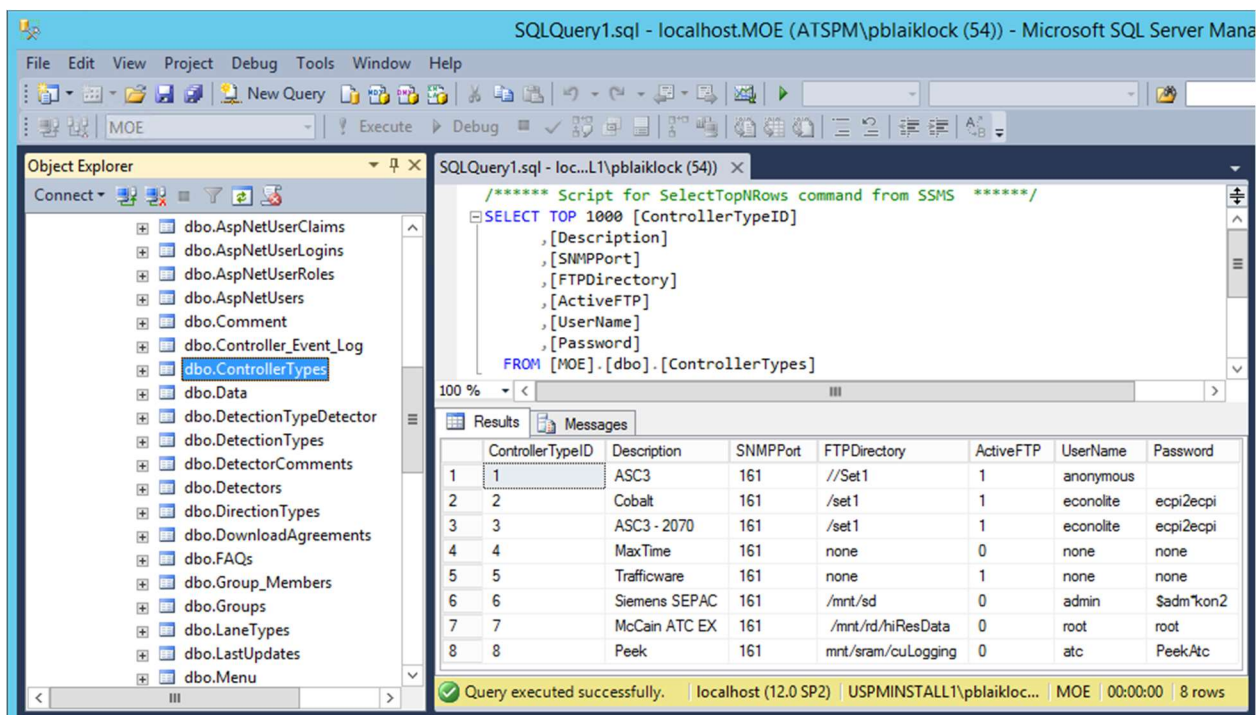

Figure 3: Checking tables in SQL Server Management Studio
5. Expand **Tables** within the MOE database, see Figure 3. Verify that several dozen tables have been created. Right-click the **ControllerTypes** table and select the top 1000 rows. Verify that signal controllers have been populated.